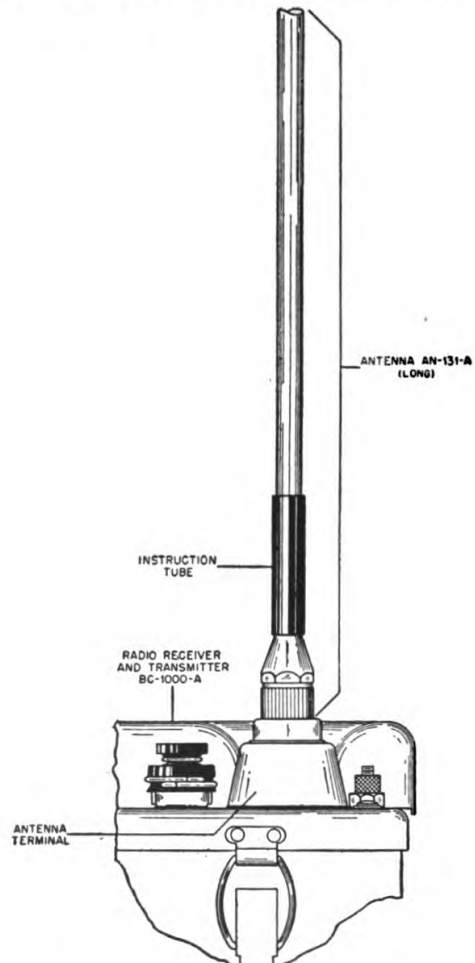

Figure 7. Antenna AN-131-A, Installation Detail.
Antenna AN-131-A is a lightweight tapered flexible antenna consisting of eight sections and is 10 feet 8 inches in length when assembled. The eight sections are held captive by means of a kinkless, stainless steel cable which runs the entire length of the antenna and is under spring tension. This cable eliminates the possibility of losing a section and permits rapid assembly of the antenna. A threaded stud is provided at the base of the antenna to attach it to the antenna terminal of the set. The GROUND FOR SHORT ANTENNA binding post is not used with Antenna AN-131-A, since no antenna matching circuit is required. (See Figure 7.) Antenna AN-131-A is designed for use in unobstructed areas only. Antenna AN-131-A is carried in Bag BG-150-A, when not in use.
(2) *Antenna AN-131-A.* This is an 8-section antenna, the sections of which are folded back when not in use. Grasp the bottom or largest diameter section and toss the remaining sections out. Then gently whip the antenna a few times. This will allow the tension spring, that is located in the bottom section to pull all the sections together by means of the cable that runs throughout the length of the antenna. Screw the assembled antenna into the antenna terminal that is located near the lower right hand corner of the set front panel (See Figure 7.) Approximately five turns are required to screw the antenna into the terminal. *Don't use force.*